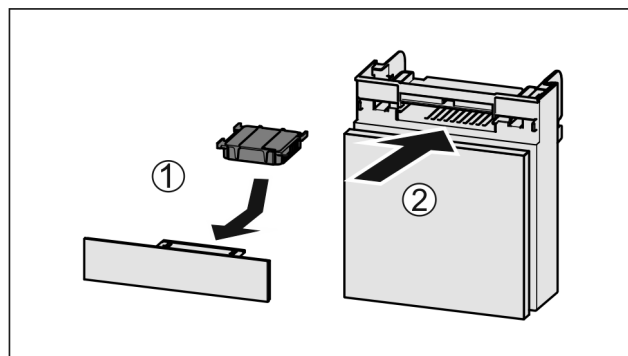

Fig. 70
- Insert the carbon filter as shown in the diagram Fig. 70 (1).
- Push the compartment in Fig. 70 (2).